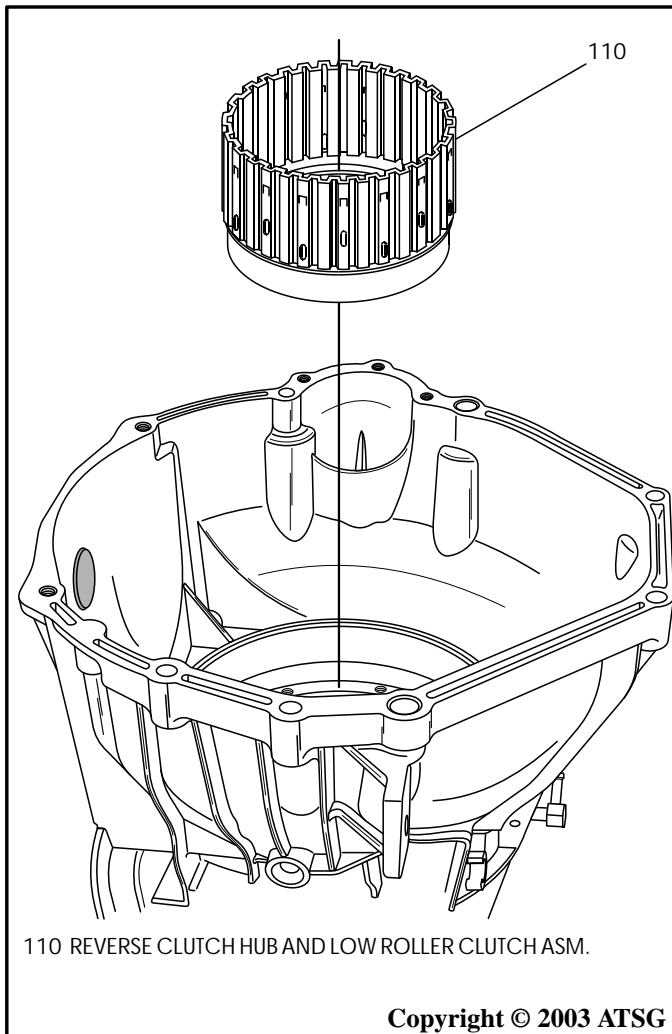

Figure 70
26. Remove the reverse clutch hub and low roller clutch assembly, as shown in Figure 70, and set aside for component rebuild.